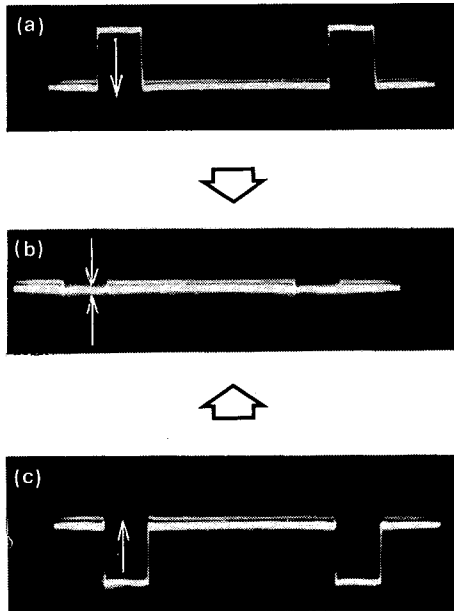

Fig 7.30
- (1) Cap the lens (or close the iris control mechanism)
- (2) Connect the oscilloscope probe between terminals TP-2 and TP-E on the Video Process PCB (CA 1501A)
- (3) Adjust VR12 **PEDESTAL SET** volume on CA 1501A to achieve a waveform as shown in Figure 7.30. Since either side may be displaced from zero, adjust it to zero.